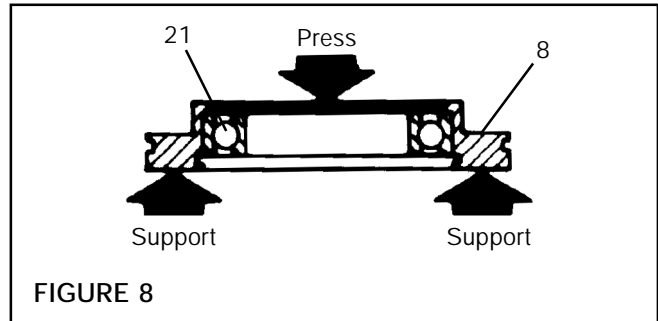

FIGURE 8
11. Press Ring Drive (Item 10) into Bearing (Item 22) and Cylinder (Item 9) (See Fig. 8).